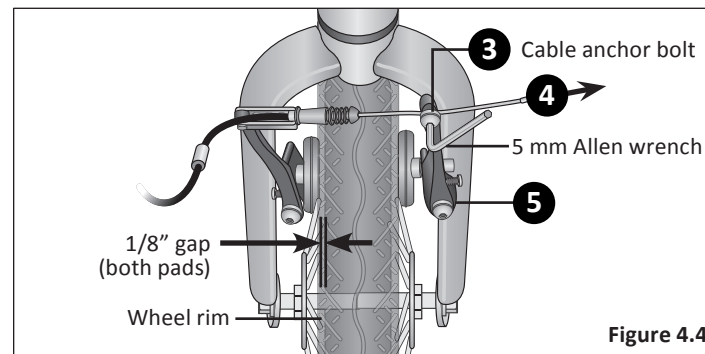

Figure 4.4
- 3 Check the brake cable is seated in the brake lever. Using a 5 mm allen wrench loosen the cable anchor bolt enough so the brake cable can move freely. **Figure 4.4**